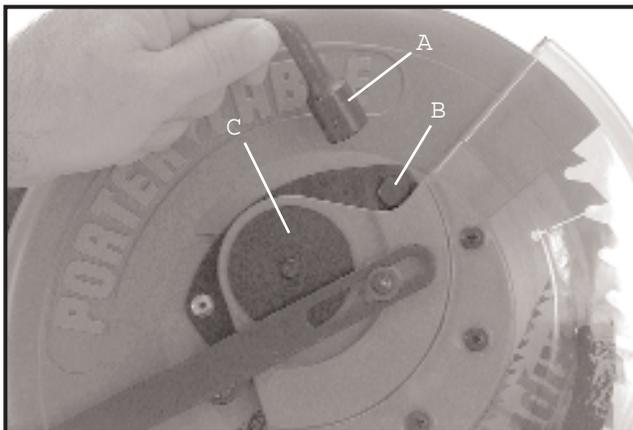

Fig. 51
2. Using the special wrench (A) Fig. 51, supplied, loosen screw (B) to free arbor cover (C).
8. Rotate arbor cover (C) Fig. 51, until hook in cover is engaged under screw (B) and tighten screw (B) which was loosened in STEP 2.